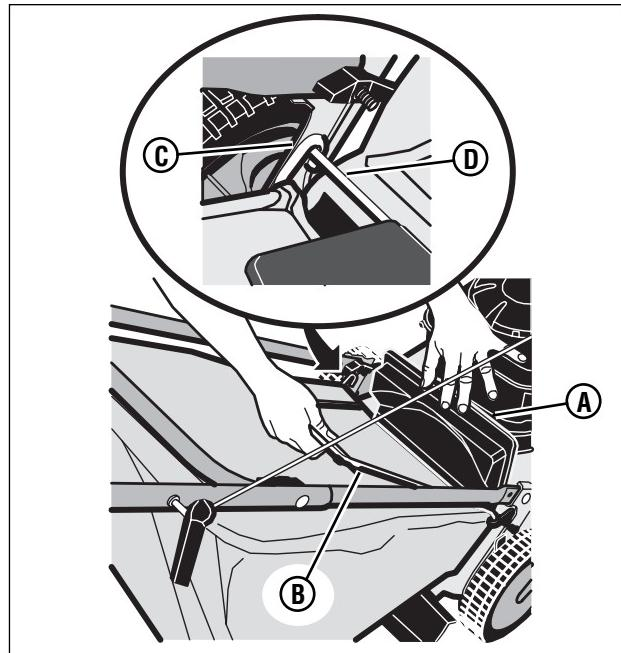

Figure 8: Mounting the grass bag
- To mount the grass bag on the mower, raise the rear door (**A**, **Figure 8**). Holding the grass bag by the handle (**B**), mount the hooks (**C**) on either end of the grass bag frame assembly onto the rear door pivot rod (**D**). Lower the grass bag against the rear of the mower. Lower the rear door.